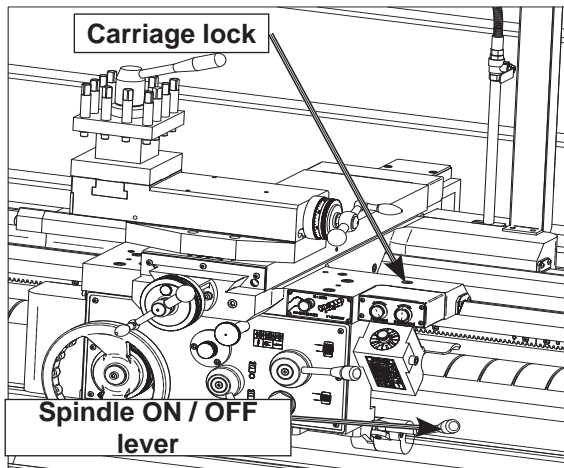

Figure 21. Carriage lock & Spindle ON / OFF lever.
7. Using a 10mm hex wrench, loosen the carriage lock (Figure 21) so the carriage is free to slide.
8. Move the spindle ON / OFF lever to the OFF (middle) position as shown in Figure 21.